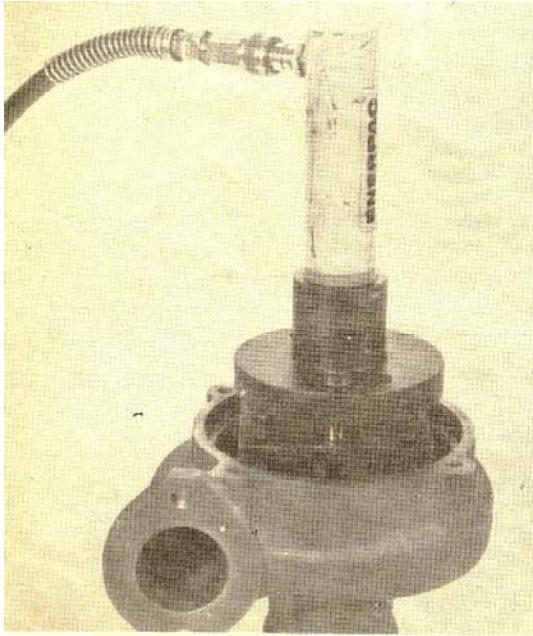
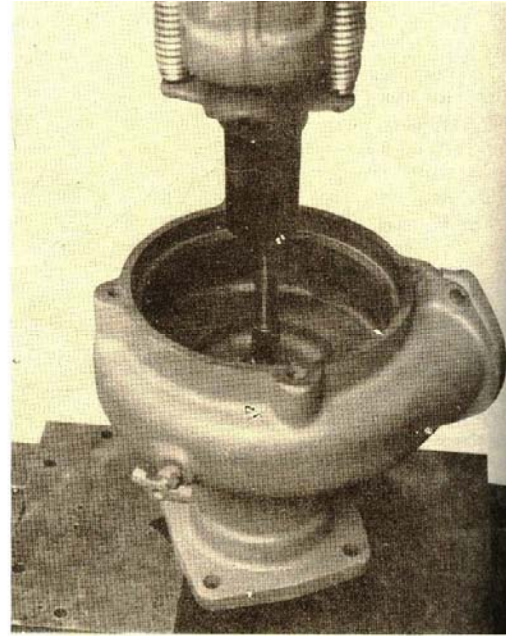

Fig. 8-2, Remove the Impeller
Fig. 8-3, Press the shaft assembly from the housing
- Remove the capscrews and lock washers securing the water inlet housing (14) to the water pump housing (9). Discard the O-rings.
- Use a 3375265 Puller to remove the water pump impeller (12) from the shaft (5), Fig. 8-2.
- Remove the retaining ring (2) holding the bearing and the shaft assembly (4, 5, 6) in the water pump housing.
- Support the water pump housing at the drive end. Press the shaft and bearing assembly from the housing by applying pressure to the impeller end of the shaft, Fig. 8-3.
- Remove the seat (11), drive the oil seal (7) and the face seal (100) from the housing. Discard the seat and seal.